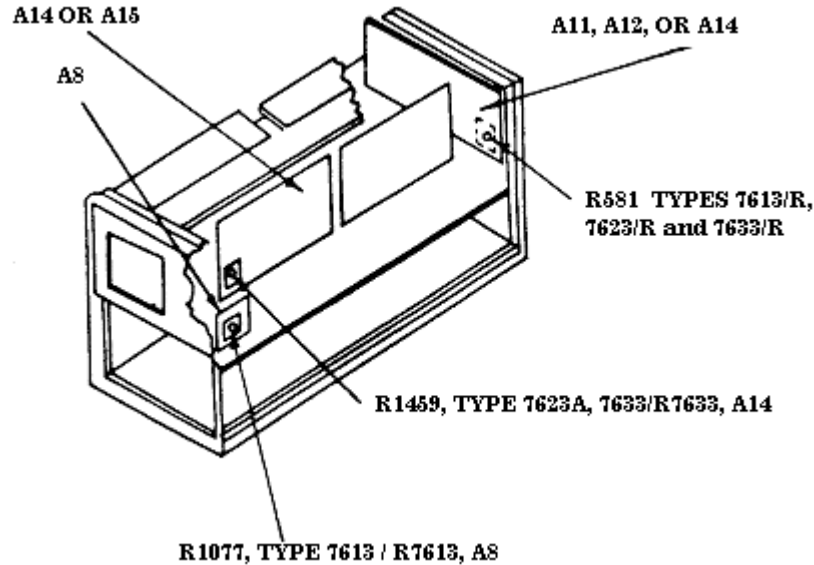

Figure 3. A14 or A15 board - adjustment locations - (Tektronix, Types 7633/R7633) and A8 board - adjustment locations (7613/R7613).
(1) Rotate oscilloscope calibrator knob below **EDIT FIELD** pushbutton for **0%** indication on calibrator **err** display and adjust vertical amplifier variable gain for 4 major divisions on TI.
(2) Disconnect oscilloscope calibrator from vertical amplifier **CH 1** input.
(3) Connect vertical amplifier **CH 1** input to TI **CALIBRATOR** 4-V output and **GND** (front panel).
(4) Adjust CAL ADJ R1459 for Types 7623A, 7633, and R1077 for 7613 (fig. 3) for 4 divisions of vertical deflection on TI (R).
(5) Set **POWER OFF/ON** switch to **ON**. Digital voltmeter will indicate between -1430 and -1520 V dc.
(6) Set **POWER OFF/ON** switch to **OFF** and disconnect digital voltmeter.
b. Adjustments. Adjust -50 V R881 (fig. 3) for a -50-V indication on digital voltmeter (R).